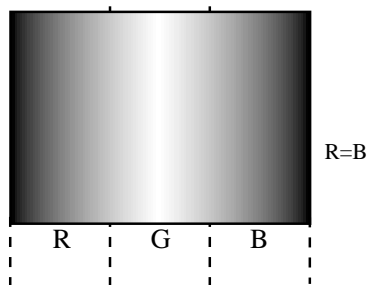

Fig 1-5 (a)
- (1) Receive the green raster signal from the pattern generator.
- (2) Loosen the magnet lock screw, and shift the magnet assembly backward (toward the neck).
- (3) Loosen the DY lock screw, and shift the DY deflecting yoke backward (toward the neck).
- (4) After opening the two purity magnets to the same angle, adjust the color width of the bands on both sides of the screen so that they are equal. (refer to Fig. 1-5 (a)).
As shown in Fig. 1-5 (b), the purity magnet functions in relation to the electron beam.